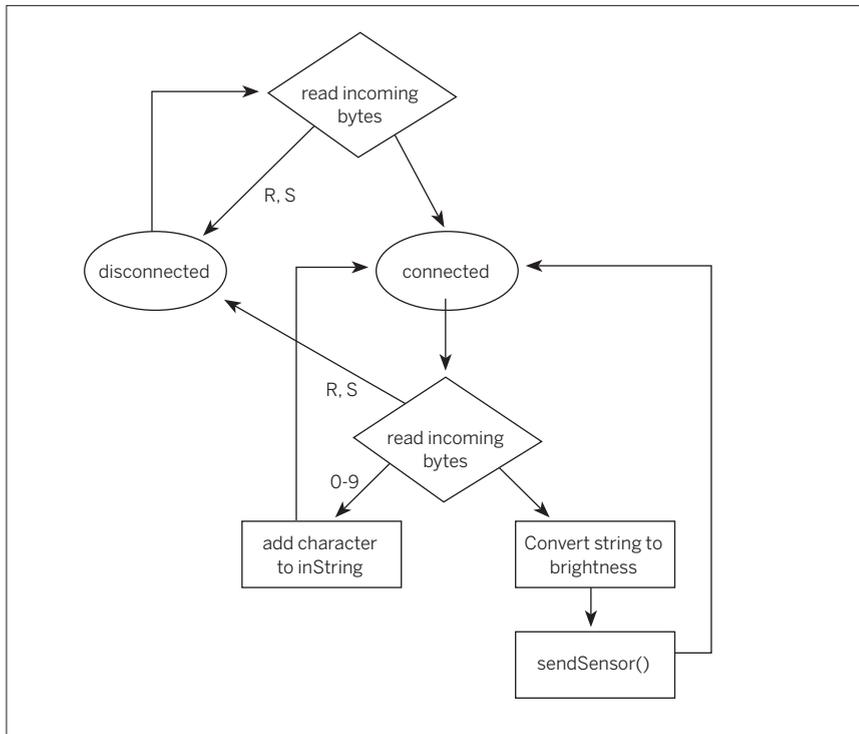

Figure 6-18
▶ The sequence for this `handleSerial()` method is a bit complicated, so Figure 6-18 shows it in a flowchart. The actual code follows: